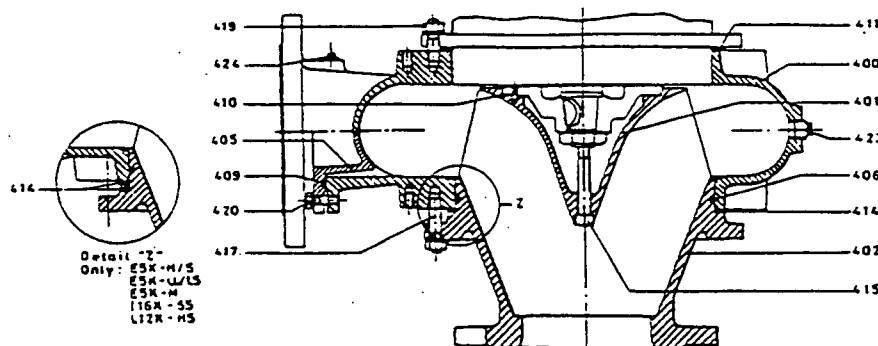

FIGURE 16: E5K, E8K, F6K, F10K, H8K, H12K, I10K, I16K, L12K, L20K: Non-Regulable.
These pumps have a one-piece suction cover (402) which is bolted to the volute casing (400) by studs and nuts (417). Adjustment of clearance is by shims (411) between the volute casing and the motor. Note that on certain models there may be a spacer ring (414) between mating surfaces of the suction cover and the volute casing. When there is excessive wear on the conical surface, the suction cover (402) should be replaced. See Figure 16.